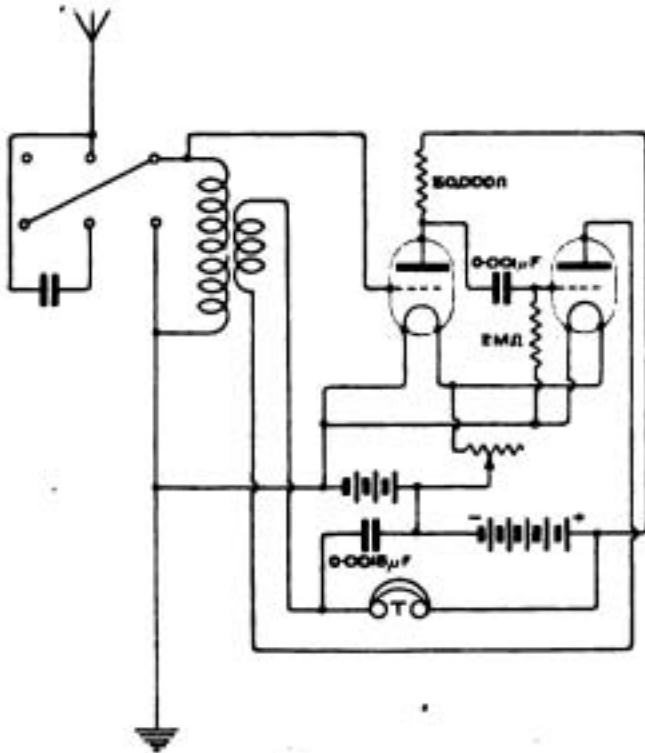

Fig. 5.
J.F.E. (Tooting).—Connect the circuit as in Fig. 5.